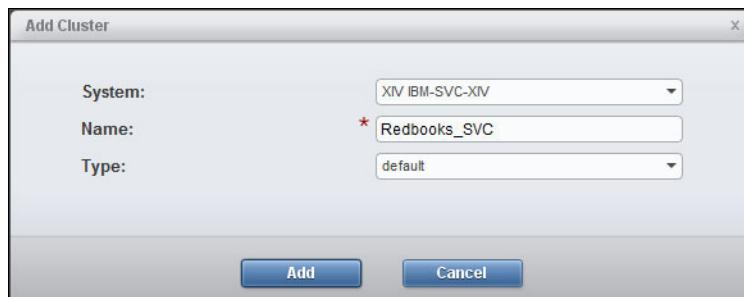

Figure 13-5 Add Cluster dialog box
3. The **Add Cluster** dialog box opens, as shown in Figure 13-5. Enter a name for the cluster. For the Type, the default option is correct.